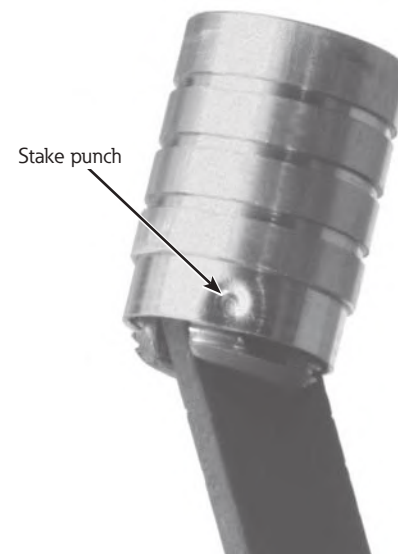

Figure 6. Pump piston shell
Note: If the existing pump piston shell is to be reused, you must drill out the stake punch that secures the pump piston shell to the pump piston (see Figure 6). Do not restake the pump piston until both the Pump Piston Adjustment and the Trip Linkage Adjustment are performed.
4. Stake the piston shell to prevent movement after the adjustment is correct (refer to Figure 6).